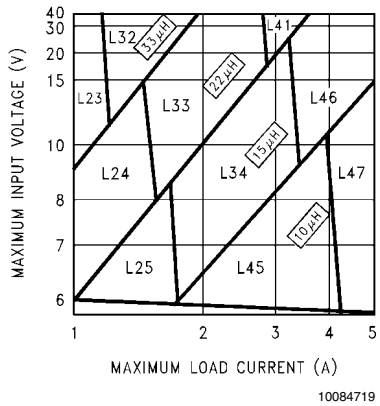
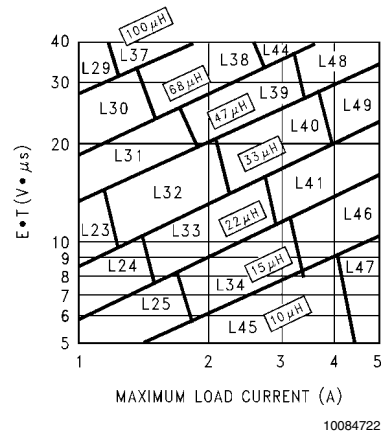

FIGURE 3. LM2679-3.3
FIGURE 6. LM2679-ADJ
Step 3: Determine the inductor required by using one of the four nomographs, *Figure 3* through *Figure 6*. Table 1 provides a specific manufacturer and part number for the inductor.
Step 5: Determine an input capacitor from Table 4 for fixed output voltage applications. Use Table 2 to find the specific capacitor type. For adjustable output circuits select a capacitor from Table 2 with a sufficient working voltage (WV) rating greater than $V_{in\ max}$, and an rms current rating greater than one-half the maximum load current (2 or more capacitors in parallel may be required).
Step 3: Use the nomograph for the 3.3V device, *Figure 3*. The intersection of the 16V horizontal line ($V_{in\ max}$) and the 4A vertical line ($I_{load\ max}$) indicates that L46, a 15 μ H inductor, is required.
Step 3: To use the nomograph for the adjustable device, *Figure 6*, requires a calculation of the inductor Volt•microsecond constant ($E \cdot T$ expressed in $V \cdot \mu S$) from the following formula:
Using Figure 6, the intersection of 27V•μs horizontally and the 3.5A vertical line ($I_{load \max}$) indicates that L48, a 47μH inductor, or L49, a 33μH inductor could be used. Either inductor will be suitable, but for this example selecting the larger inductance will result in lower ripple current.
Important Note: When using the adjustable device in low voltage applications (less than 3V output), if the nomograph, Figure 6, selects an inductance of 22μH or less, Table 6 does not provide an output capacitor solution. With these conditions the number of output capacitors required for stable operation becomes impractical. It is recommended to use either a 33μH or 47μH inductor and the output capacitors from Table 6.